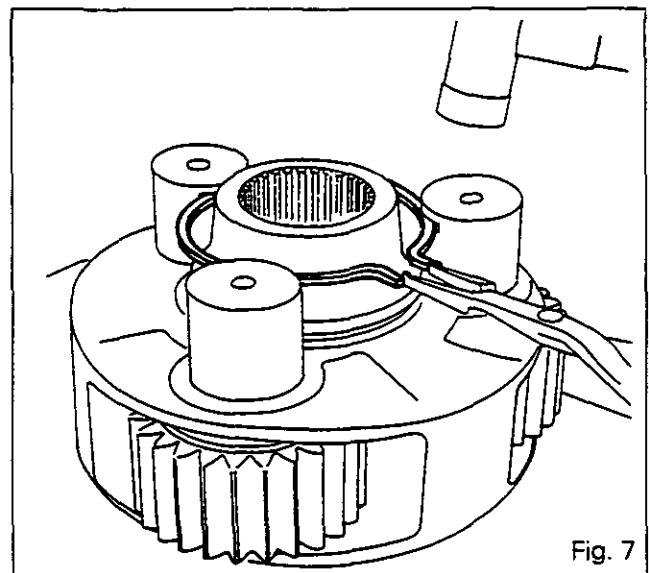

Fig. 7
12. Fit the planetary gears (18) and the thrust washers (17).
13. Fit three pins (16) with the circlip (15) (Fig.7).
15. Tap lightly on the three pins to insert the circlip (15) into the planetary carrier groove (Fig.7).